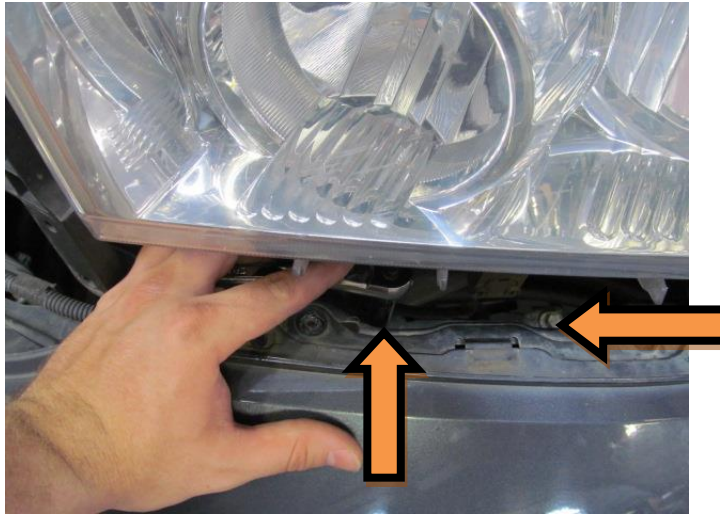

FIGURE 9:
7. RECESSED BEHIND THE LIP IN THE HEADLIGHT COMPARTMENT ARE TWO MORE 10MM BOLTS (BOTH SIDES). SEE FIGURE 9